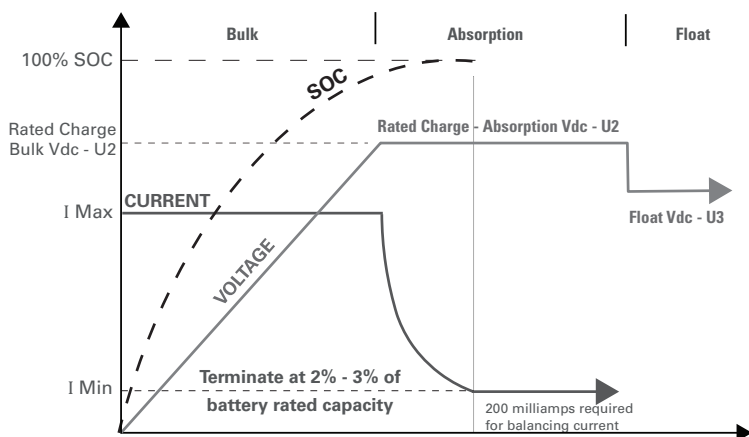

Figure 14. Charge Graph
- **It is possible.** Short-term charging with a lead-acid charger is possible only if the bulk and absorption voltages are equal to or below the bulk voltage. Refer to **Table 2-1 DLP Electrical Specification** for charging parameters and **Figure 14 Charge Graph**.